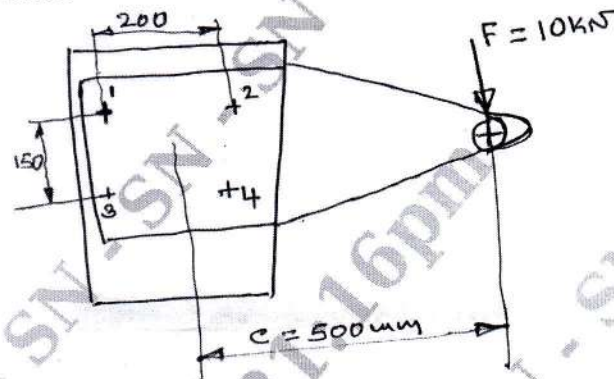

Fig. Q4 (b)
- b. The structural connection shown in Fig. Q4 (b) is subjected to an eccentric load P of 10 kN, with an eccentricity of 500 mm. The centre distance between bolts 1 and 3 is 150 mm and the centre distance between bolts 1 and 2 is 200 mm. All bolts are identical. The bolts are made of plain carbon steel having yield strength of 400 MPa and the factor of safety is 2.5. Determine the size of bolts. (10 Marks)